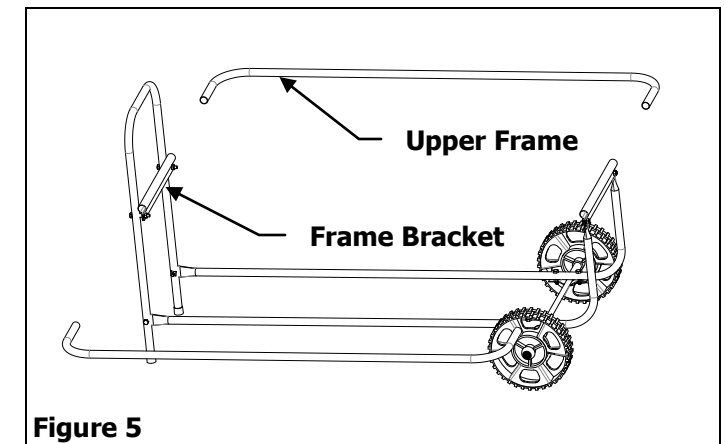

Figure 5
5. Insert Upper Frames into Frame Brackets. Place waste containers in the TRASH HOG and adjust the Upper Frames to fit containers. Now tighten all loose nuts and bolts. See Figure 5.